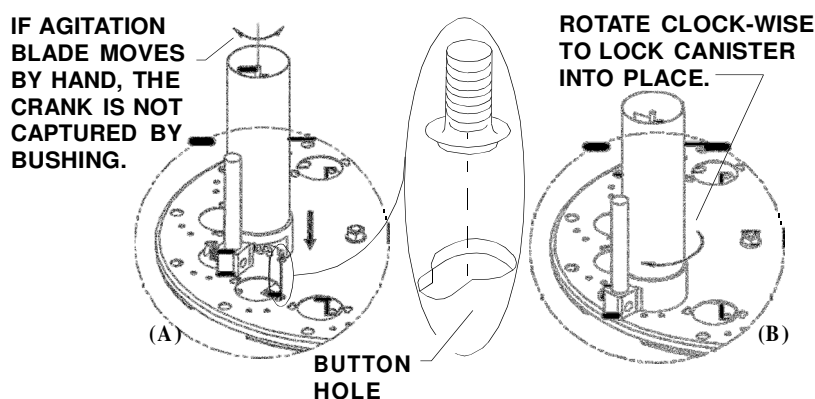

Figure 3 BUTTON HOLE MOUNTING
4. Align the screw heads with the button holes on the turntable for the front canister position and rotate the agitation blade until the agitation crank is aligned with the nylon bushing. (Figure 3 on page 7)
5. Lower the canister into position, assuring that the agitation crank is captured by the nylon bushing and that the screw heads pass through the button holes, as shown in figure 3-A. Rotate canister clockwise locking it into place as shown in Figure 3-B.